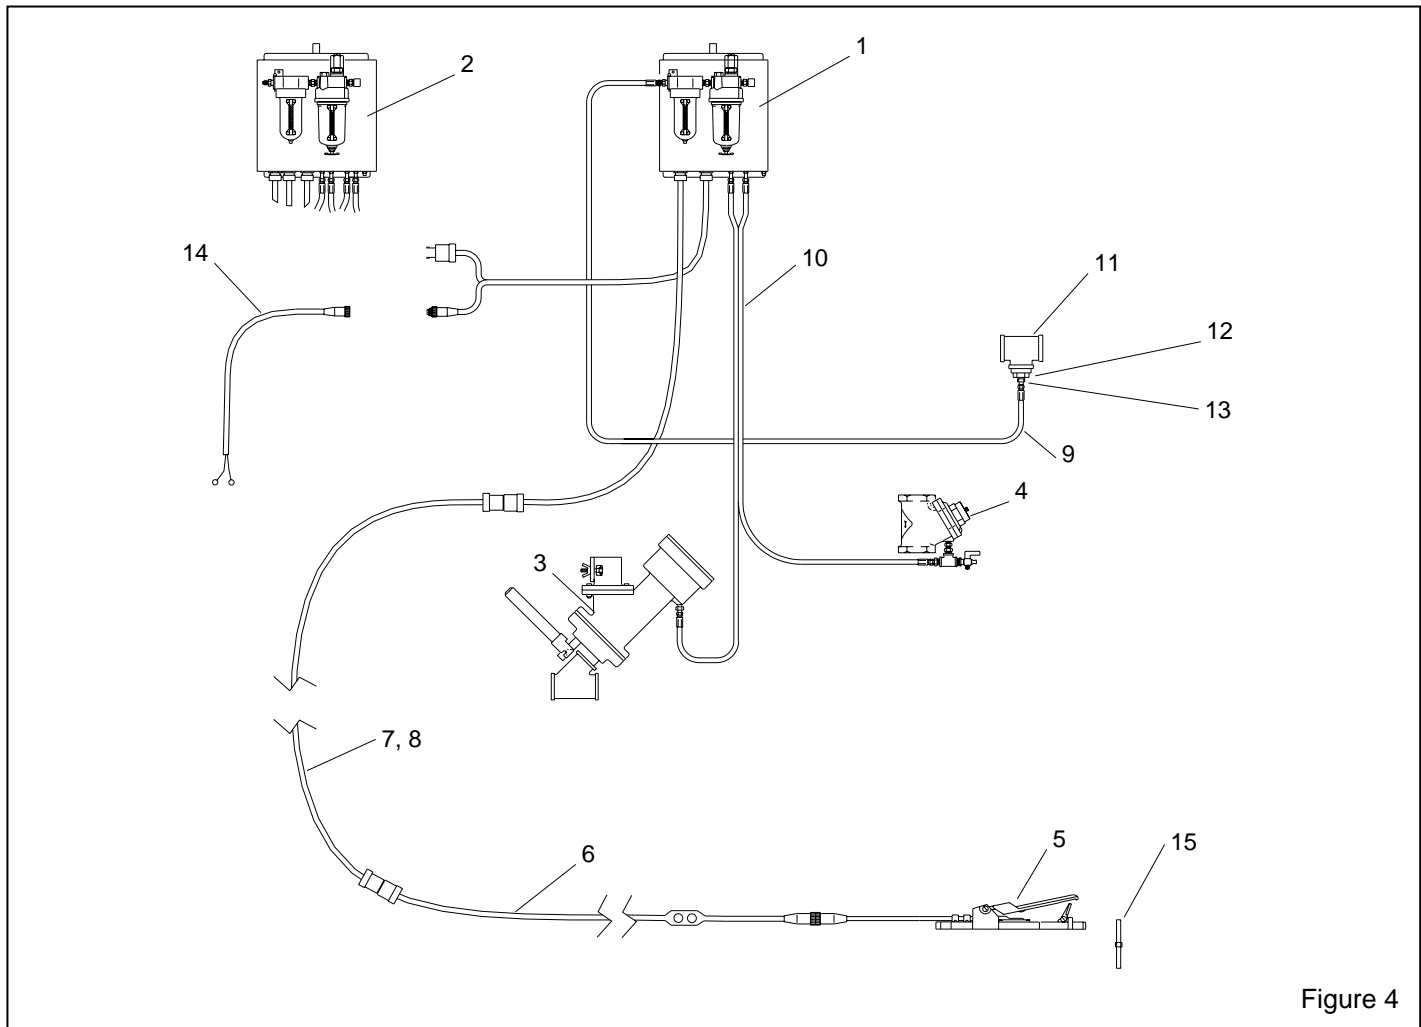

Figure 4
8.2 Sentinel Remote Control System, Figure 4